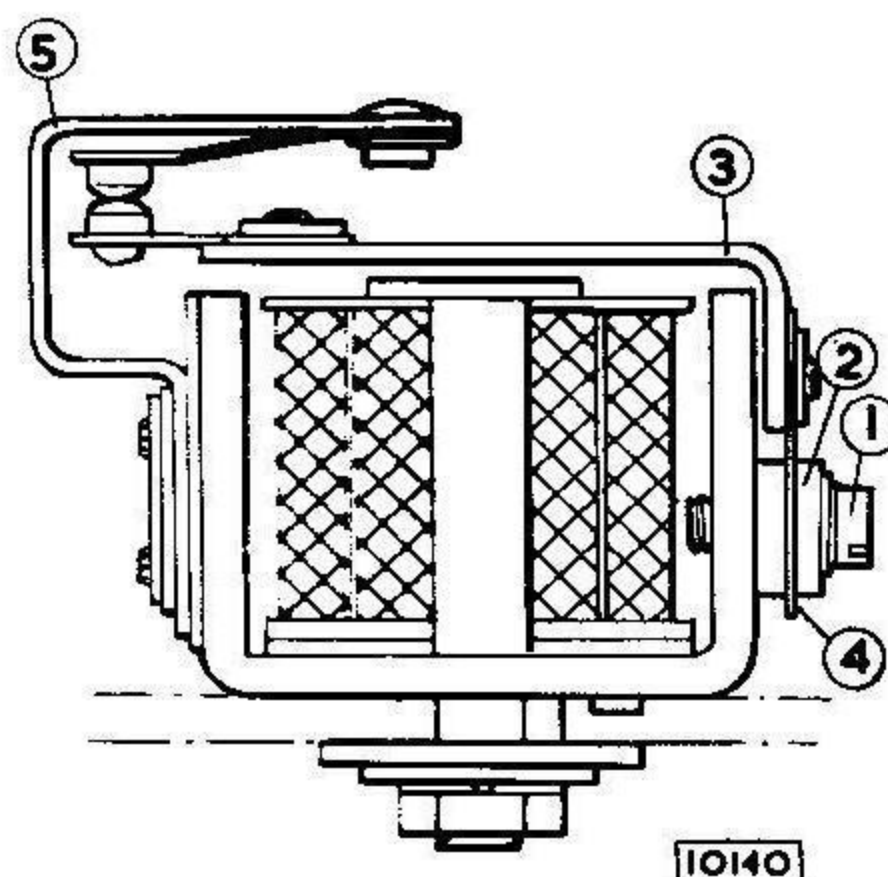

Fig. 29 The L.17 relay
Remove the relay armature fixing screws (1) Fig. 29 and packing pieces (2).